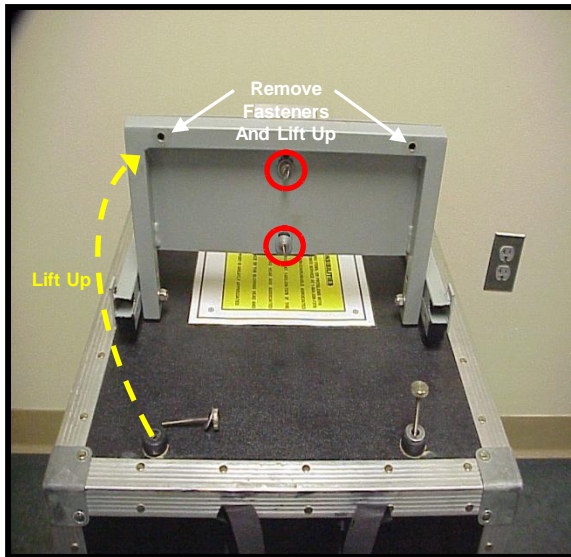

Figure 50b
13.9.1 Remove two (2) fasteners (knurled-head bolts) that secure front of Payoff Stand Shelf to the Inner Case. Lift the hinged Shelf to gain access to the two (2) thumb screws under the Blowing Head. **See Fig. 50b.**